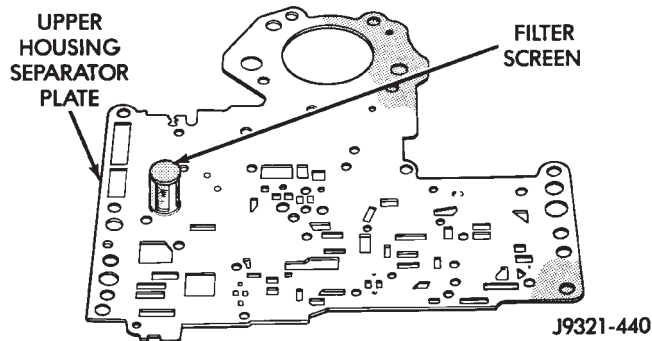

Fig. 98 Separator Plate Filter Screen Installation
- (2) Install filter screen in upper housing separator plate (Fig. 98).